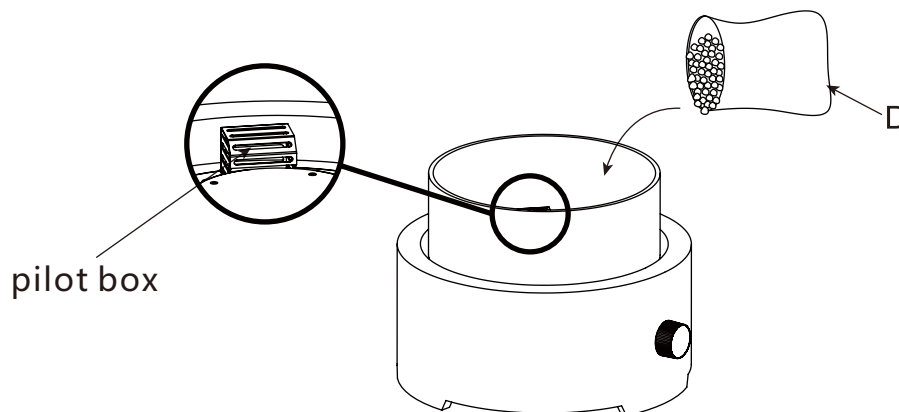

Figure 4
5. Place the glass beads (D) into the fire pit body (B). Approx. 1 kg of glass beads required (see Figure 4).